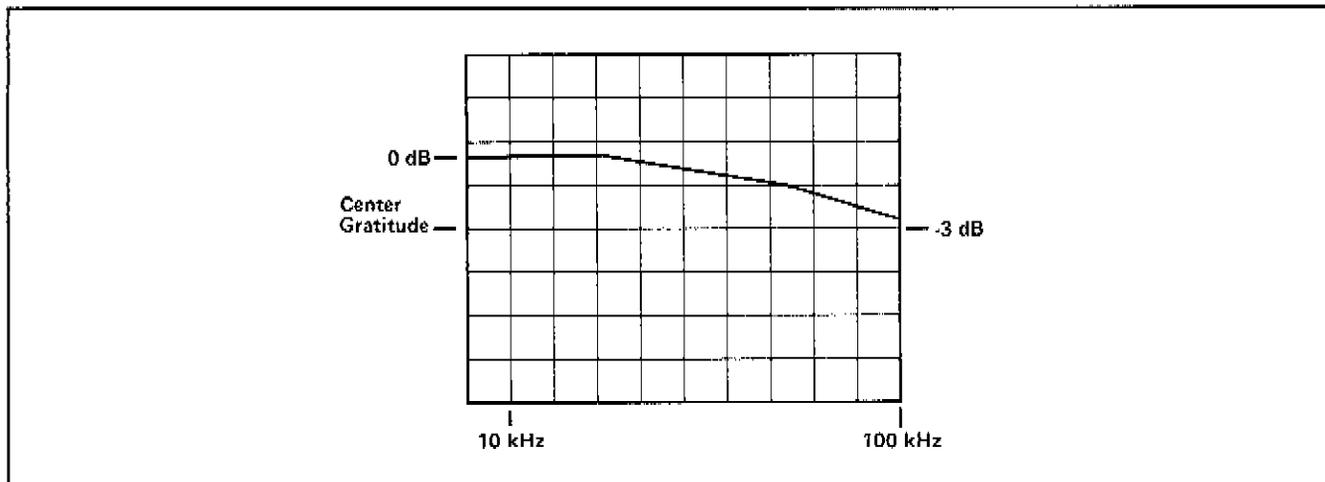

Figure 5-31. Spectrum Analyzer Display.
3. Adjust the Tracking Generator output level until both the EXT MOD LO and HIGH lights are extinguished on the 8663. Set the Spectrum Analyzer reference level for a waveform similar to the one shown in Figure 5-31. The low frequency portion of the trace (10 kHz) should be 3 dB above the center line of the screen.